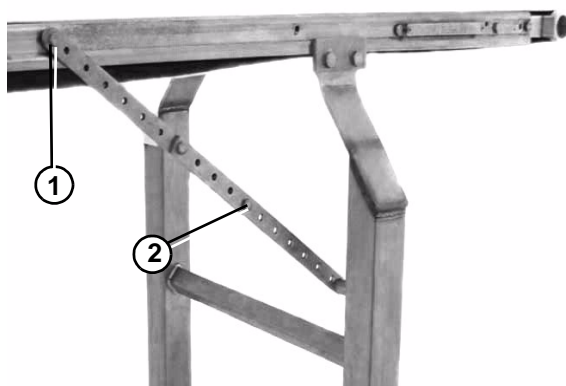

Figure 16
2. Attach other end of diagonal brace to tapped hole in side of conveyor frame (**Figure 16, item 1**). Adjust diagonal brace length using series of holes as required (**Figure 16, item 2**).
3. Tighten the M6 screw (**Figure 16, item 1**) to 80 in•lb (9 N•m).